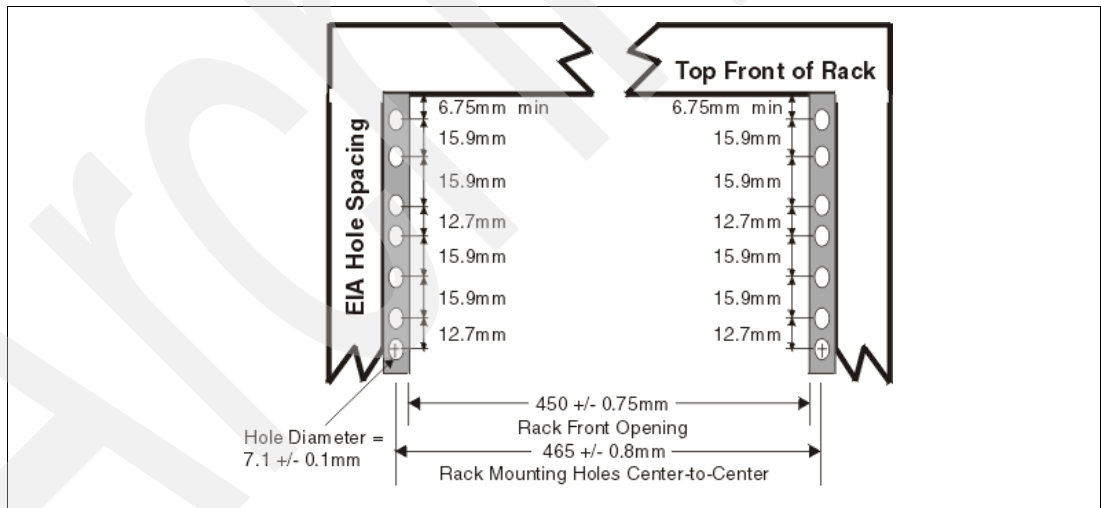
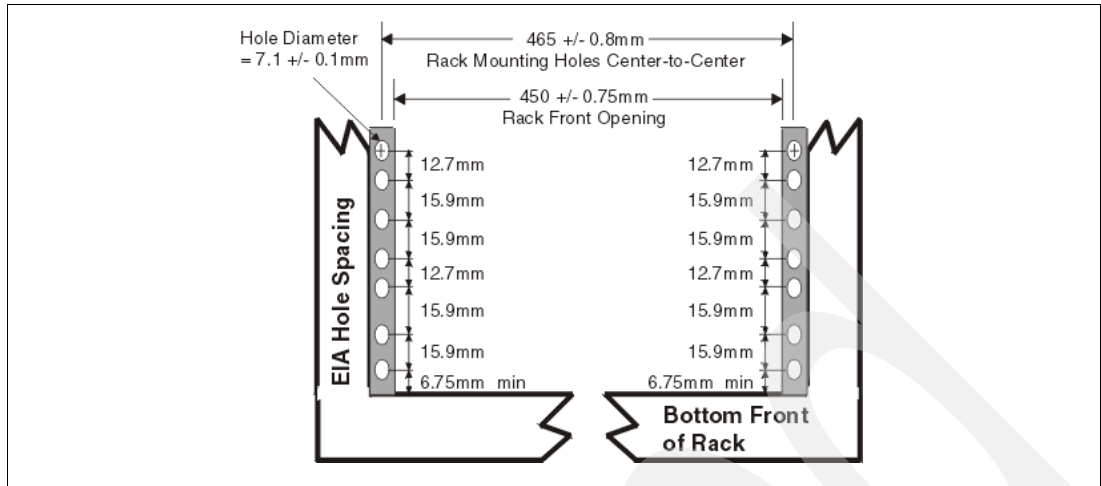

Figure 1-5 Rack specification dimensions, top front view
Figure 1-6 Rack specification dimensions, bottom front view
- The vertical distance between the mounting holes must consist of sets of three holes spaced (from bottom to top) 15.9 mm (0.625 in.), 15.9 mm (0.625 in.), and 12.67 mm (0.5 in.) on center, making each three-hole set of vertical hole spacing 44.45 mm (1.75 in.) apart on center. Rail-mounting holes must be 7.1 mm + 0.1 mm (0.28 in. + 0.004 in.) in diameter. See Figure 1-5 and Figure 1-6 on page 21 for the top and bottom front specification dimensions.